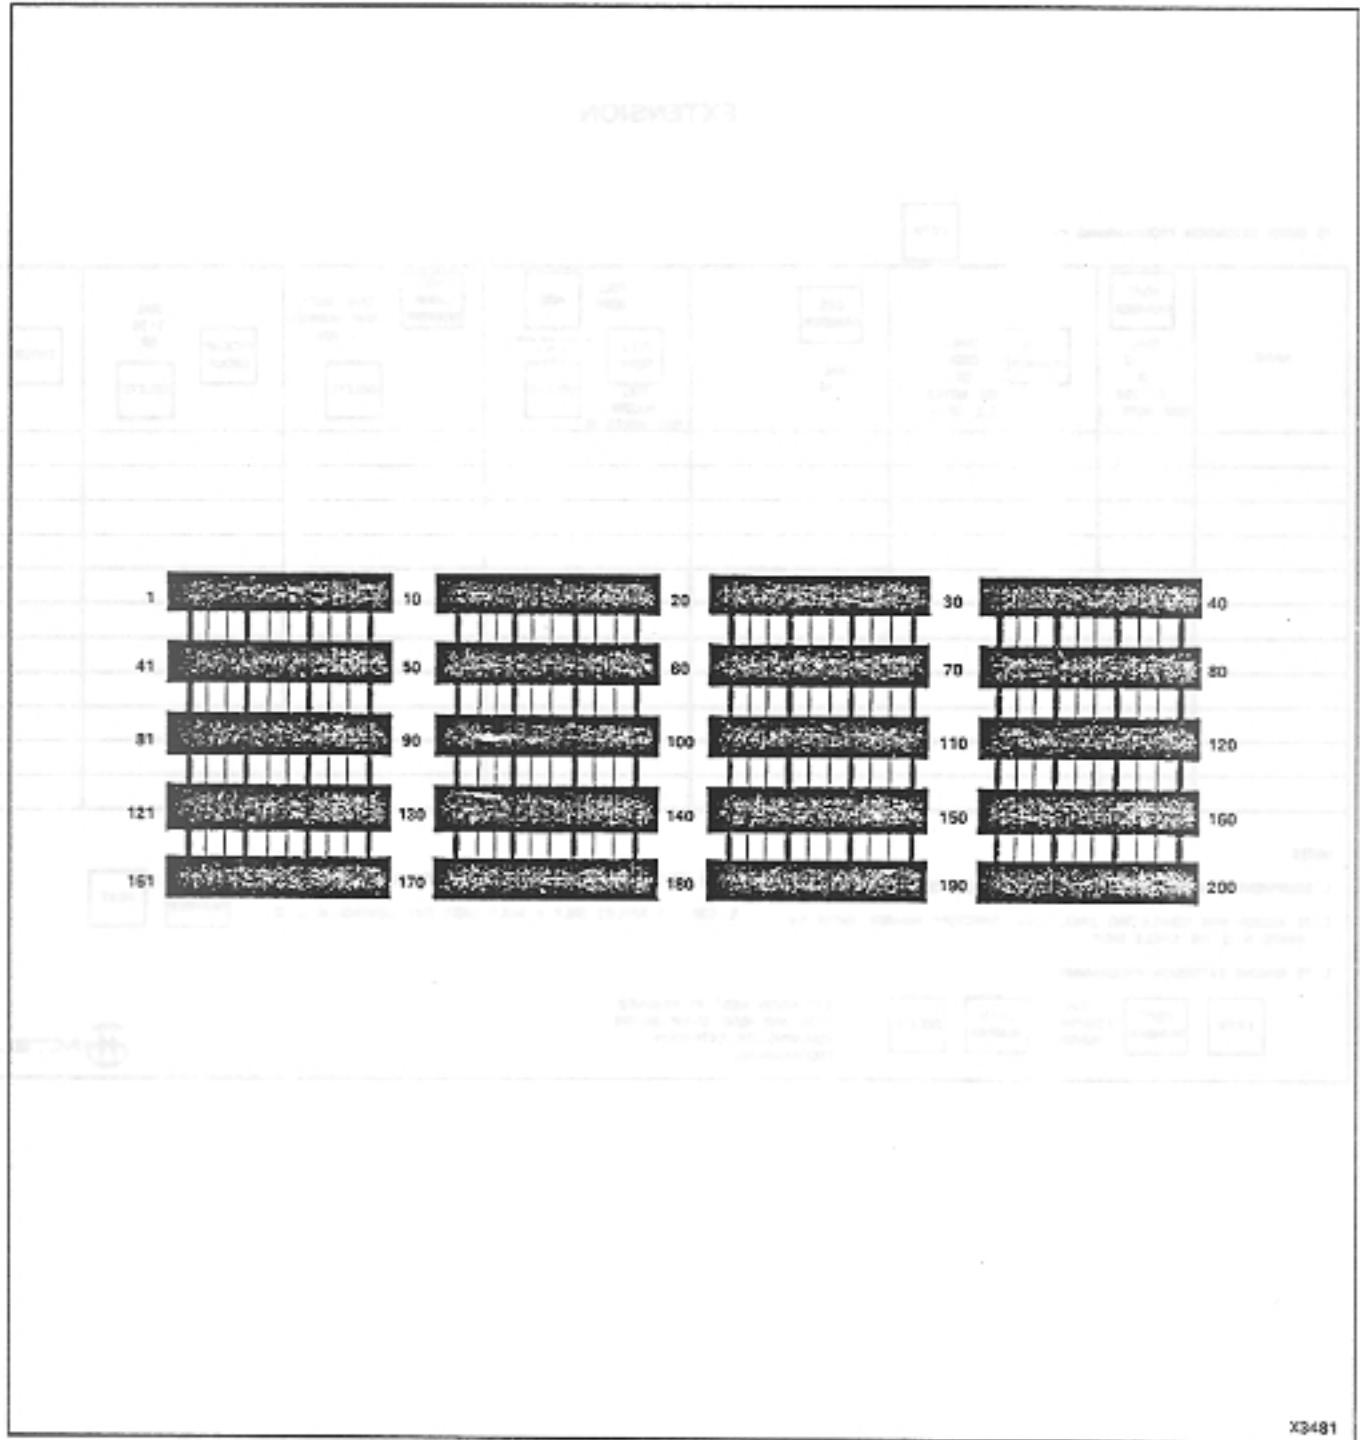

Figure 206-2 Busy Lamp Position Numbering
- (17A) Dial BUSY LAMP NUMBER (1-200) to be assigned to extension (See Figure 206-2)